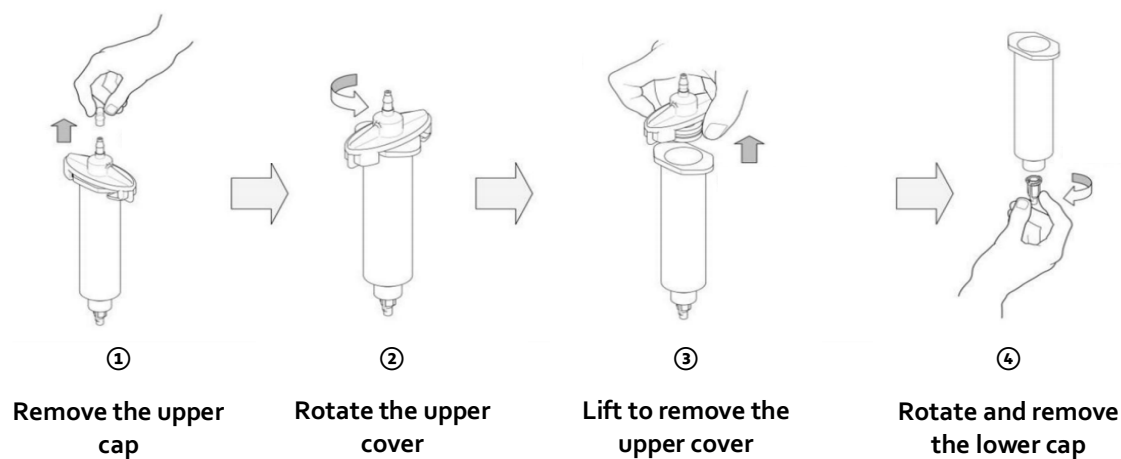

Figure 6
2. Remove the top/bottom caps from the column before loading (See Figure 6). Insert the columns sequentially, one at a time.